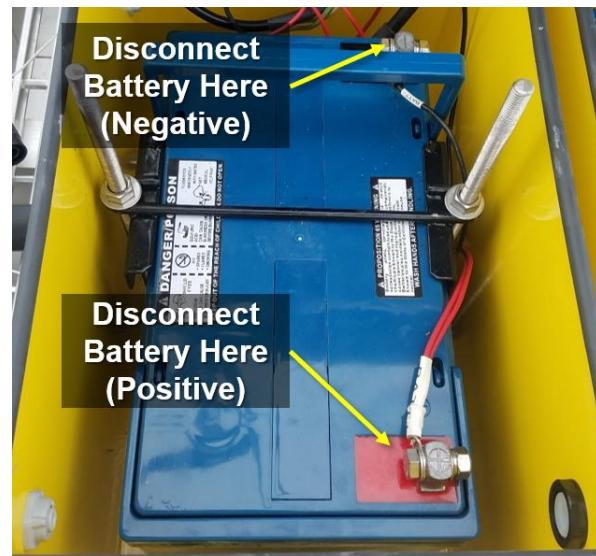

Figure 38. Disconnect the Batteries to Remove from the Battery Enclosure
- c. Disconnect the battery directly in the battery enclosure (see Figure 38). Disconnect the negative lead (black wire) first then disconnect the positive lead (red wire). Remove the bolt using a $\frac{1}{2}$ " open-end wrench to detach the batteries from the solar regulators. Do this for each battery (some sites use more than one). For Technician awareness, two protective yellow 8-amp fuses exist for each battery to prevent the battery from receiving an overabundance of electrical current.